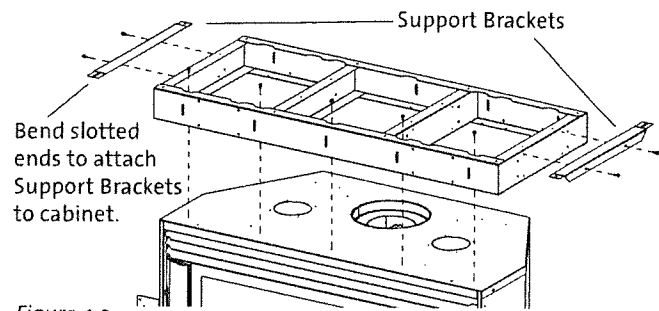

Figure 4.2
1. Detach the Header Stand-off assembly from its shipping position on top of the fireplace cabinet with removal of five sheet metal screws. Fig. 4.2